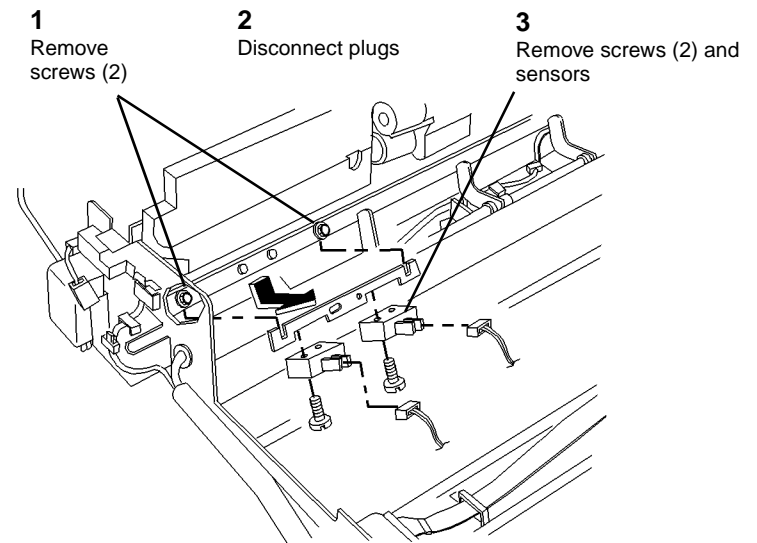

Figure 1 Removing Size Sensors 1/2
5. Remove Size Sensors 1/2 (front/rear) (Figure 1).